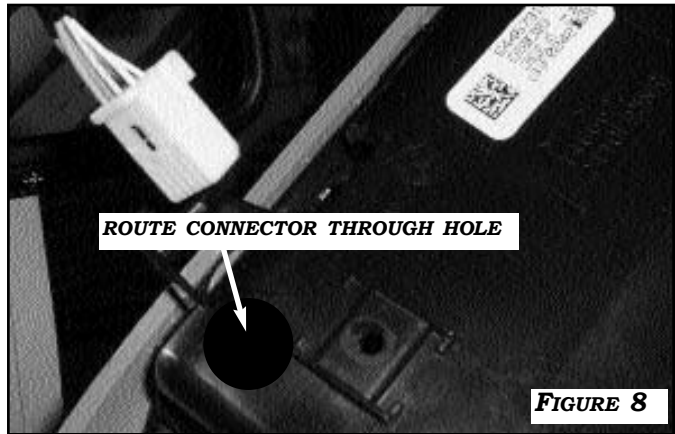

FIGURE 8
1. CONNECT DOME LIGHT HARNESS PREVIOUSLY DISCONNECTED. ROUTE THE VEHICLE 12-PIN CONNECTOR THROUGH DRILLED HOLE IN CONSOLE. CONNECT MONITOR HARNESS TO FACTORY HARNESS. WRAP THE CONNECTORS WITH THE SUPPLIED FOAM TAPE. **FIGURES 8,9.** BE SURE TO TAPE THE UNUSED WHITE AND BLACK WIRES FROM MONITOR HARNESS WITH ELECTRICAL TAPE. **FIGURE 10**